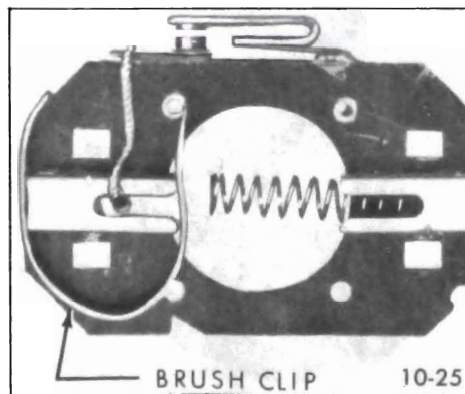

Figure 10-44 Partially Assembled Brush Plate
5. Position the partially assembled brush plate, Figure 10-44, over the armature shaft far enough to allow re-assembly of the remaining brush in its brush holder; then position the brush plate assembly on the mount-